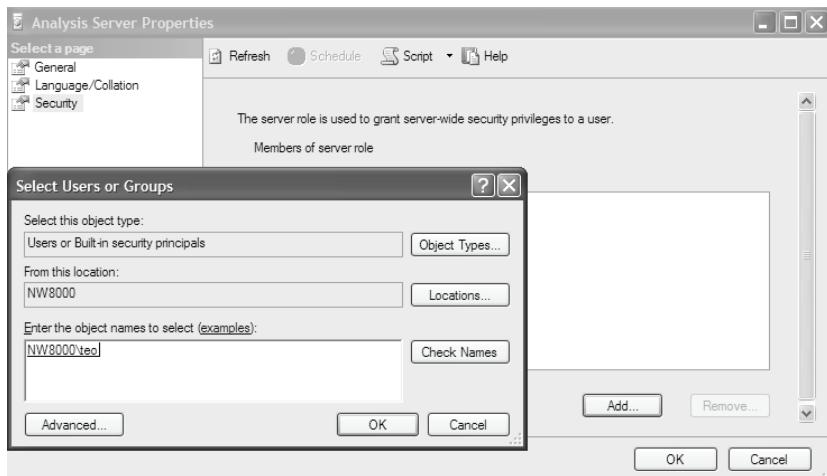

Figure 16.2 Use the server properties to grant Administrator rights to Windows users and groups.
3. Click on the Add button to bring up the standard Windows Select Users and Groups dialog (Figure 16.2). Enter the Windows user name or group in the Domain\MemberName naming